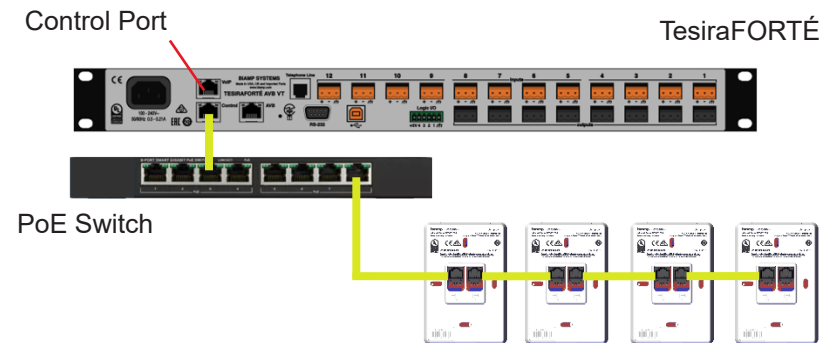

Figure 8. Basic Network Layout
- The buttons and rotary knob may be configured via the Control Pad Designer in the Tesira software. There are many configuration possibilities. The Control Pad Designer allows for customizing the interface to match the physical device color as well button color, text, etc. Examples of color and layout are shown in Figures 8 and 9.